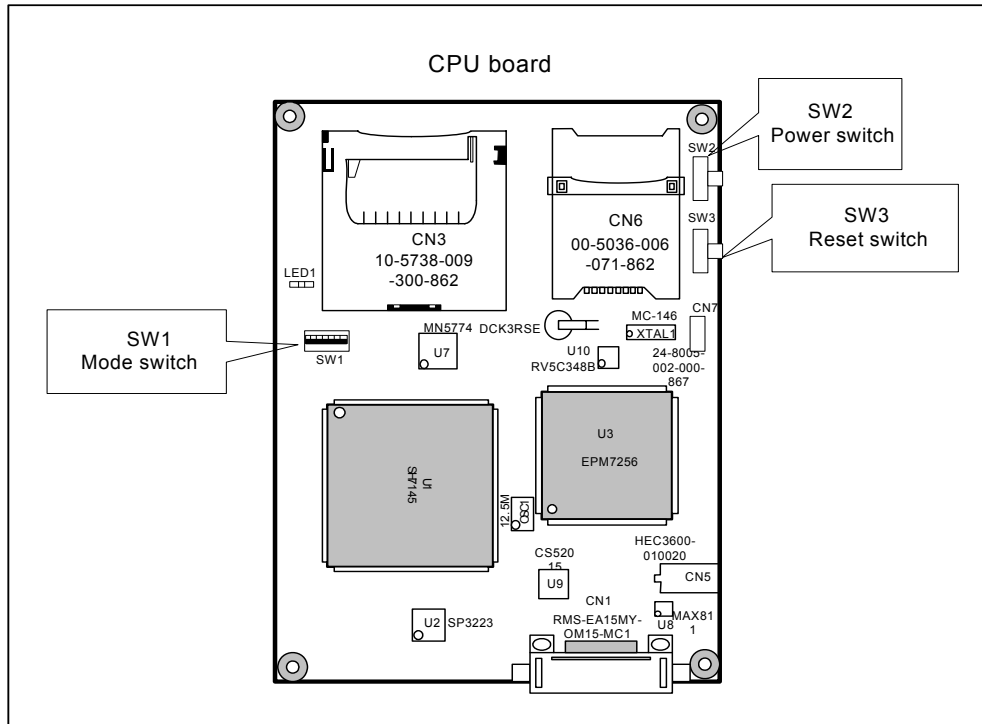

Figure 3.1 Switches SW1–SW3 on the CPU Board
Figure 3.1 shows switches SW1–SW3 mounted on the CPU board. The functions of switches SW1–SW3 are detailed in paragraphs (1) to (3) below.